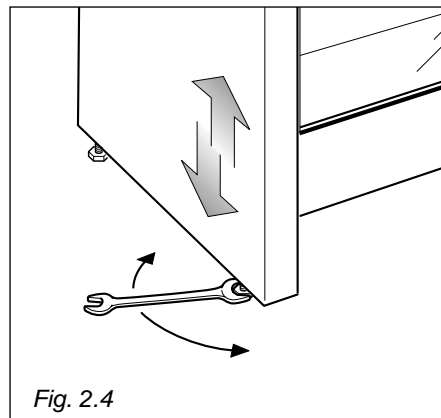

Fig. 2.4
- Stand the cooker and levelling it by screwing or unscrewing the feet with a spanner (fig. 2.4).